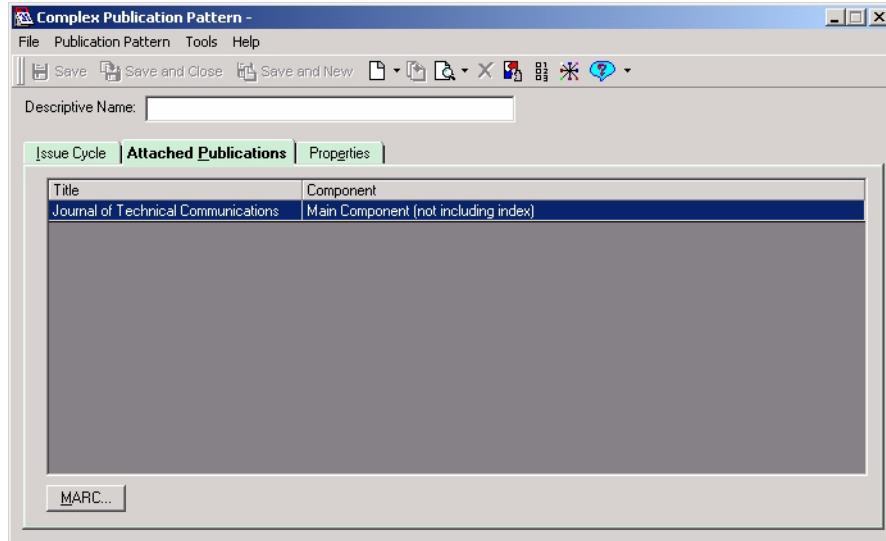
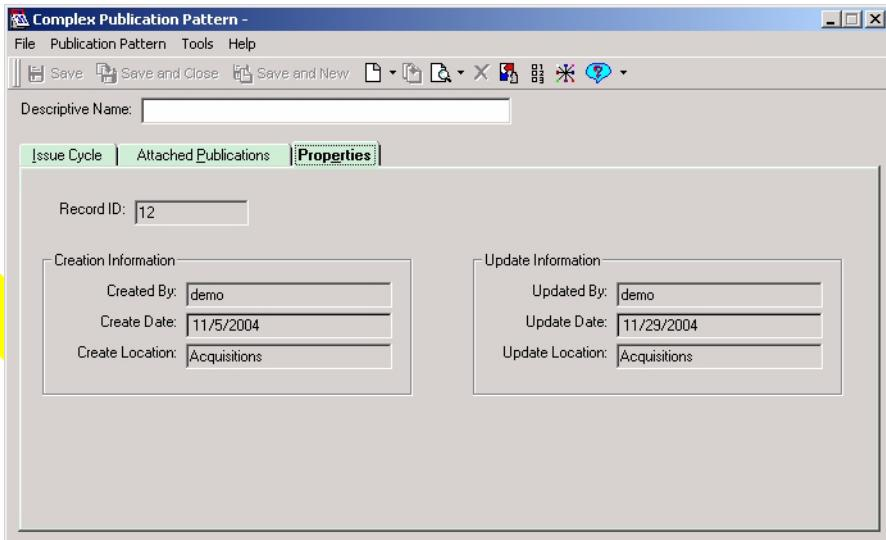

Figure 8-54. Attached Publications tab
Figure 8-55. Properties tab
*Additional information about the pattern is indicated on the **Attached Publications** tab and the **Properties** tab. See Figure 8-54 and Figure 8-55.*